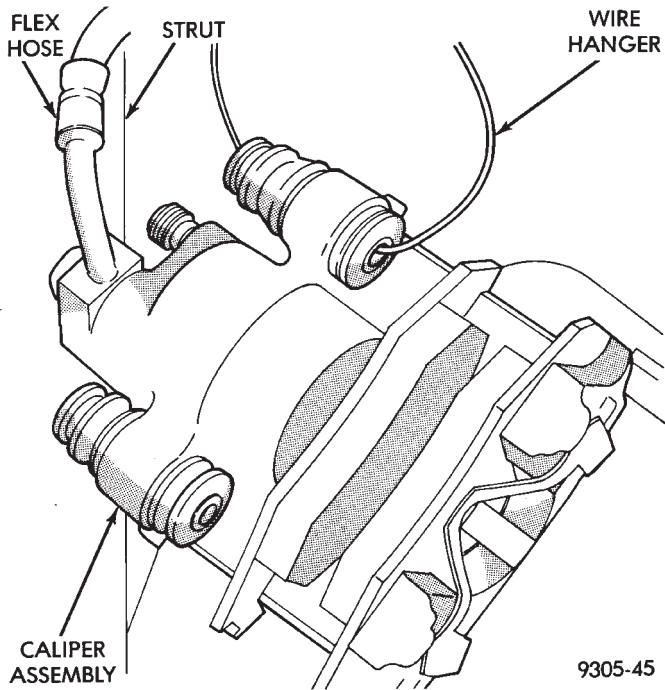
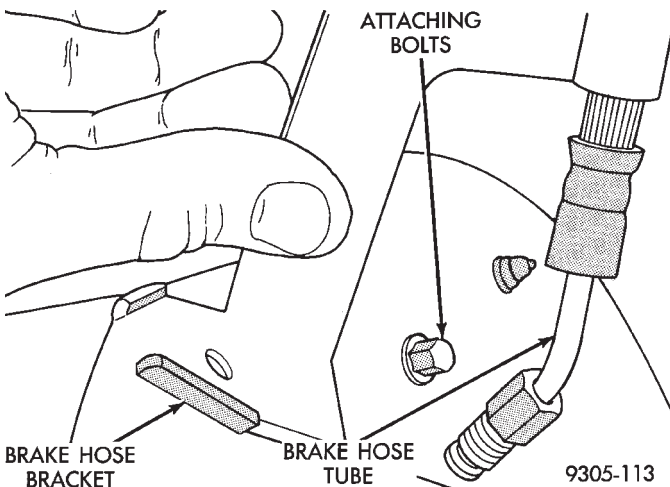

Fig. 21 Storing Caliper
Fig. 22 Brake Hose Bracket And Tube
(2) Remove the rear wheel and tire assembly from the vehicle.
(3) If vehicle is equipped with rear disc brakes, remove the rear caliper assembly from the adapter. Refer to Rear Disk Brakes in Group 5 Brakes of this Service manual for required caliper removal procedure. After removing caliper assembly store caliper by hanging it from frame of vehicle (Fig. 21). Do not let weight of rear caliper assembly hang from flexible brake hose. If vehicle is equipped with rear drum brakes, remove the brake flex hose bracket from the support plate and wheel cylinder (Fig. 22).
(9) If vehicle is equipped with rear disc brakes, install rotor on hub. If vehicle is equipped with rear drum brakes, install the brake drum on hub.
(10) If vehicle is equipped with rear disc brakes, install rear braking disc on hub. Carefully place rear brake caliper over rotor and install on adapter. Tighten the caliper assembly to adapter mounting bolts to a torque of 22 N·m (192 in. lbs.). Refer to Rear Disc Brakes in Group 5 Brakes in this service manual for required caliper installation procedure.
(11) If vehicle is equipped with rear drum brakes install rear brake flex hose onto wheel cylinder and support plate (Fig. 22). Tighten the brake hose tube nut to a torque of 17 N·m (145 in. lbs.). Tighten the brake hose bracket attaching bolt to a torque of 8 N·m (75 in. lbs.).
(12) If vehicle has rear drum brakes, brake system will require bleeding. Refer to Bleeding Brake System in the Service Adjustments Section of Group 5 Brakes in this service manual.